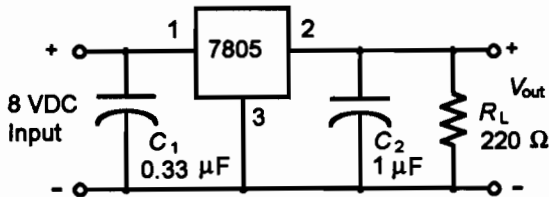

Figure 70.1
1. Construct the circuit in Figure 70.1.